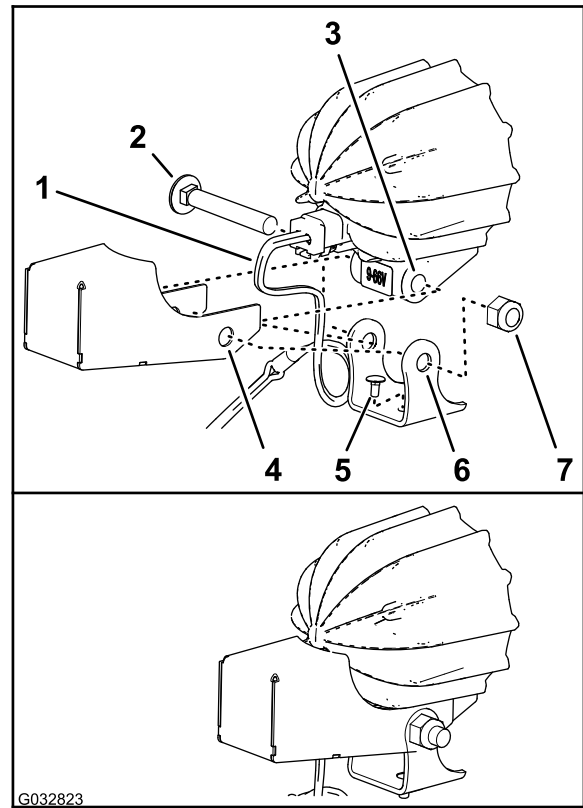

Figure 11
3. If assembled, remove the long carriage bolt and nut that secure the mount bracket to the frame of the LED light (Figure 11).
4. Ensure that the short carriage bolt is assembled through the hole in the bottom of the mounting bracket as shown in Figure 11.
5. Align the holes in the shield and mount bracket with the holes in the frame of the LED light as shown in Figure 11.
6. Assemble the shield and mount bracket to the frame of the LED light with the carriage bolt and nut (Figure 11).